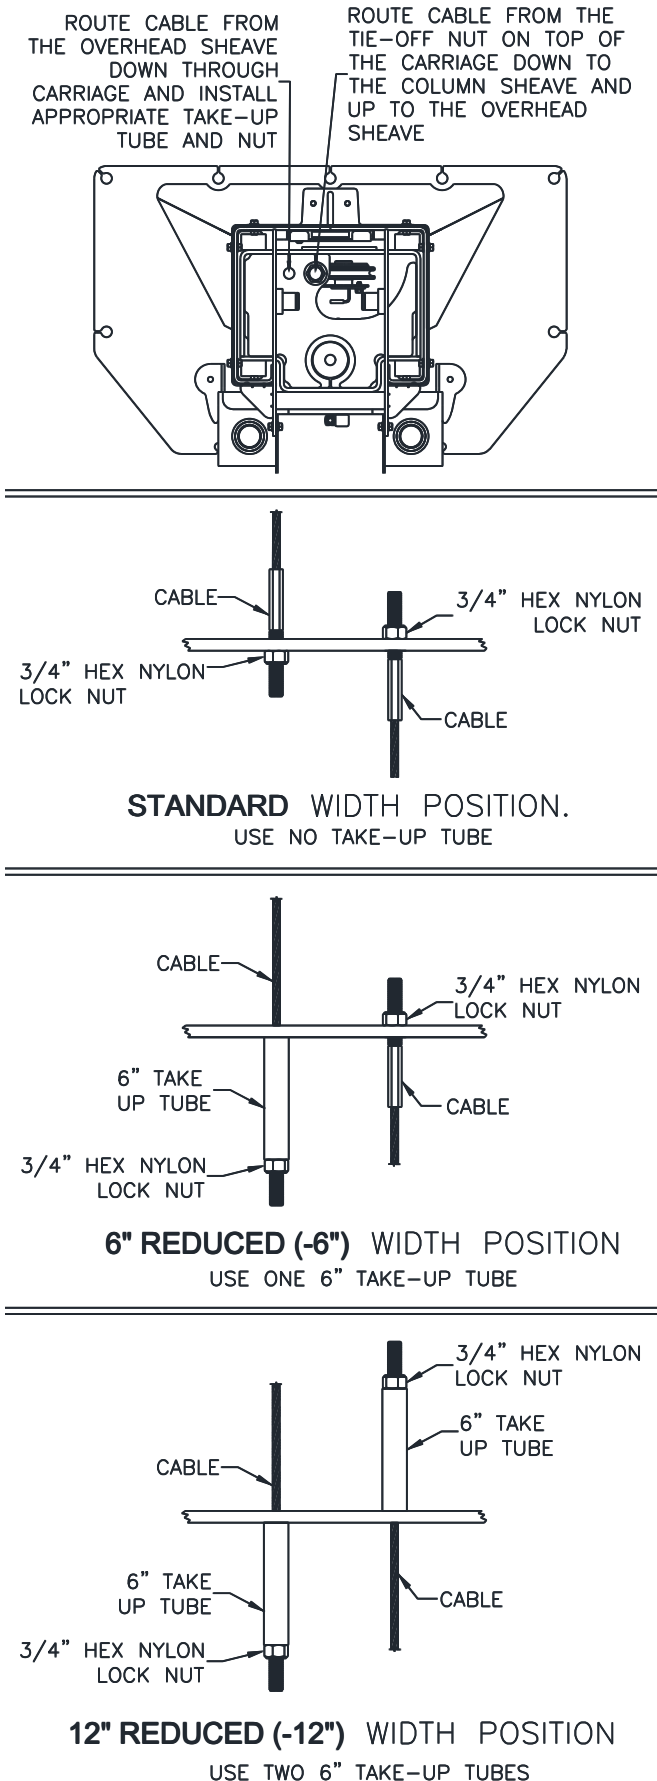

Fig. 10 – Cable Attachment At The Carriage
30) Mount synchronizer cables to carriages as shown in Fig. 10. **Note: Use the proper Take-Up Tube as shown in Fig 10 based on the width of the lift.**